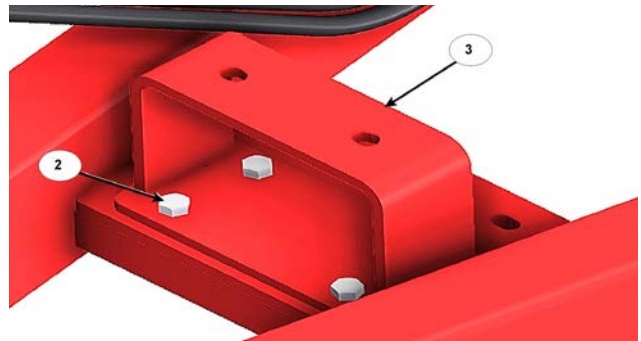

Figure 5: Remove the Fasteners & Bearing Support
9. At the front hitch, remove the fasteners (2) holding the bearing support (3), see *Figure 5*.
10. Remove the bearing support (3), see *Figure 5*.